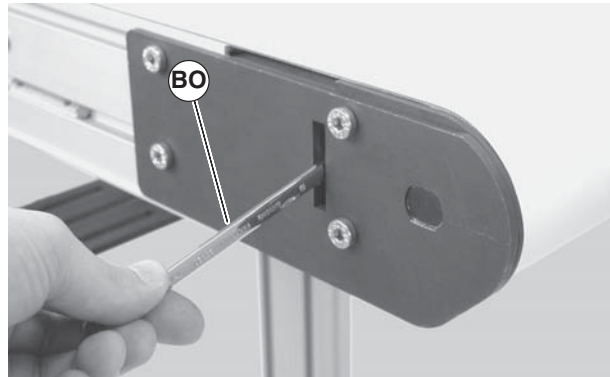
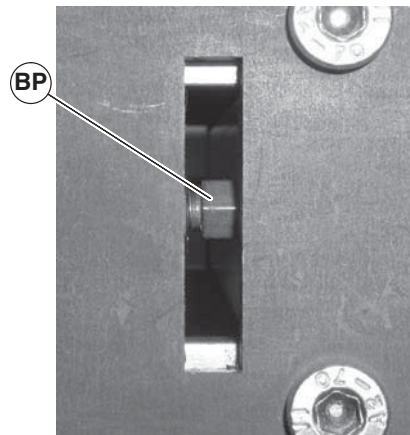

Figure 38
Figure 39
2. With the conveyor running, use wrench (Figure 38, item BO) to rotate the tracking screw (Figure 39, item BP) in small increments until the belt tracks in the center of the conveyor.